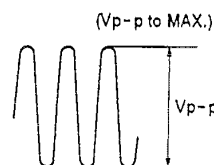

Fig. 3
- (1) Tuning to 600kHz, turn VOLUME control (VR901) clockwise to 2/3 position and adjust L104 on the TUNER PCB ASSY for maximum output. (Fig. 3)
- (2) Tuning to 1400kHz, turn VOLUME control (VR901) clockwise to 2/3 position and adjust TC102 for maximum output. (Fig. 3)
- (3) Repeat adjustments as necessary to minimize tracking error.